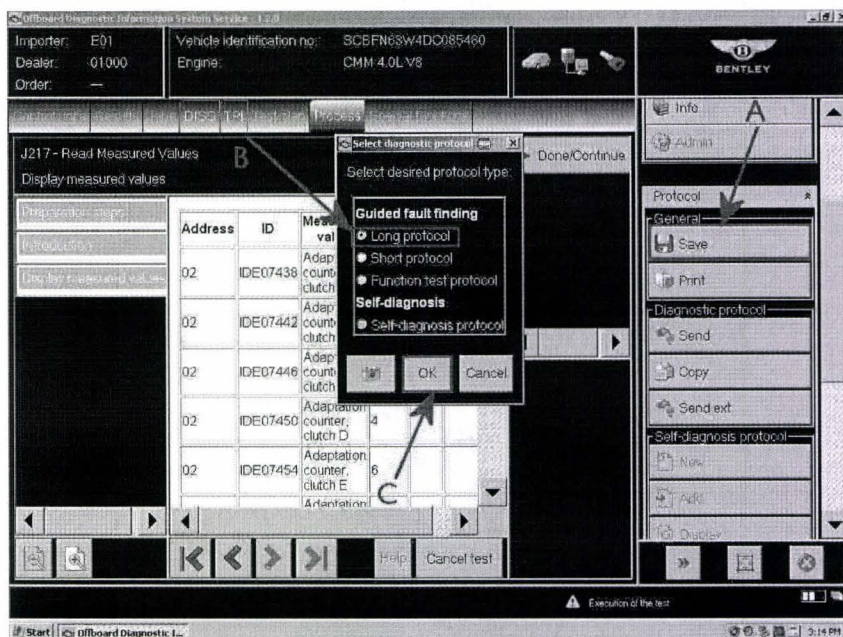

Figure 15
- Referring to Figure 15 (Point A) select Save